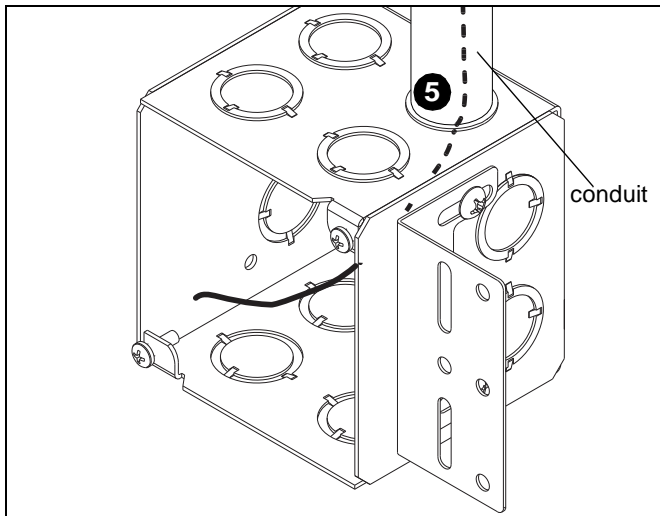

Figure 11
5. Route wires from electrical conduit through knockout hole per local building code. Use wire nuts to safely terminate wires until drywall is installed. (See Figure 11)